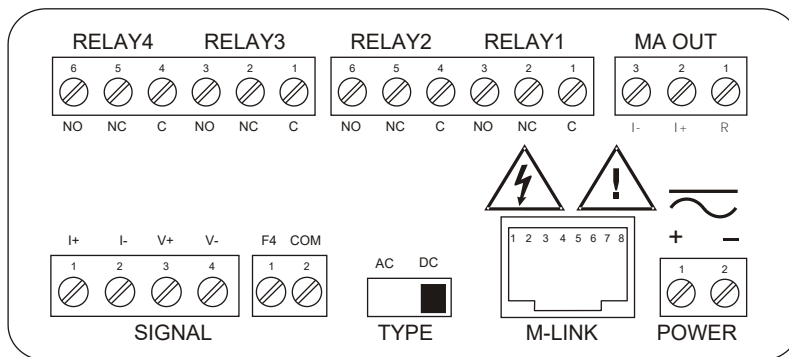

Figure 5. Connector Labeling for Fully Loaded PD6400
| Isolated Transmitter Power Supply | Terminals I+ & R: 24 VDC ± 10% @ 40mA. May be used to power the 4-20 mA output or other devices. Refer to Figure 5 on page 10 and Figure 19 on page 14. | | |
Power connections are made to a two-terminal connector labeled POWER on Figure 5. The meter will operate regardless of DC polarity connection. The + and - symbols are only a suggested wiring convention.
Signal connections are made to a four-terminal connector labeled SIGNAL on Figure 5. The I+ and I- terminals are used for Channel A (CH-A) as the current input terminals. The V+ and V- terminals are used for Channel V (CH-V) as the voltage input terminals.
In addition to the signal connections, the switch labeled TYPE on Figure 5 must be set to AC (alternating current) or DC (direct current) to accept the corresponding type of voltage and current signals.
Serial communications connection is made to an RJ45 connector labeled M-LINK on Figure 5. For interfacing to the PROVu®, use the PDA1232 for RS-232 or the PDA1485 for RS-485. The same port is used for interfacing with all expansion modules (e.g. external relays, digital I/O).
Relay connections are made to two six-terminal connectors labeled RELAY1 – RELAY4 on Figure 5. Each relay's C terminal is common only to the normally open (NO) and normally closed (NC) contacts of the corresponding relay. The relays' C terminals should not be confused with the COM (common) terminal of the INPUT SIGNAL connector.